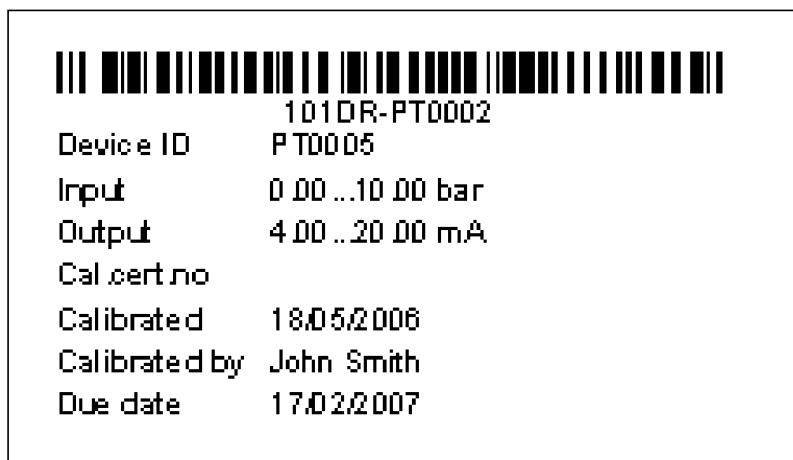

Figure 4
- Press the *Preview* button and the label should look somewhat like Figure 4.